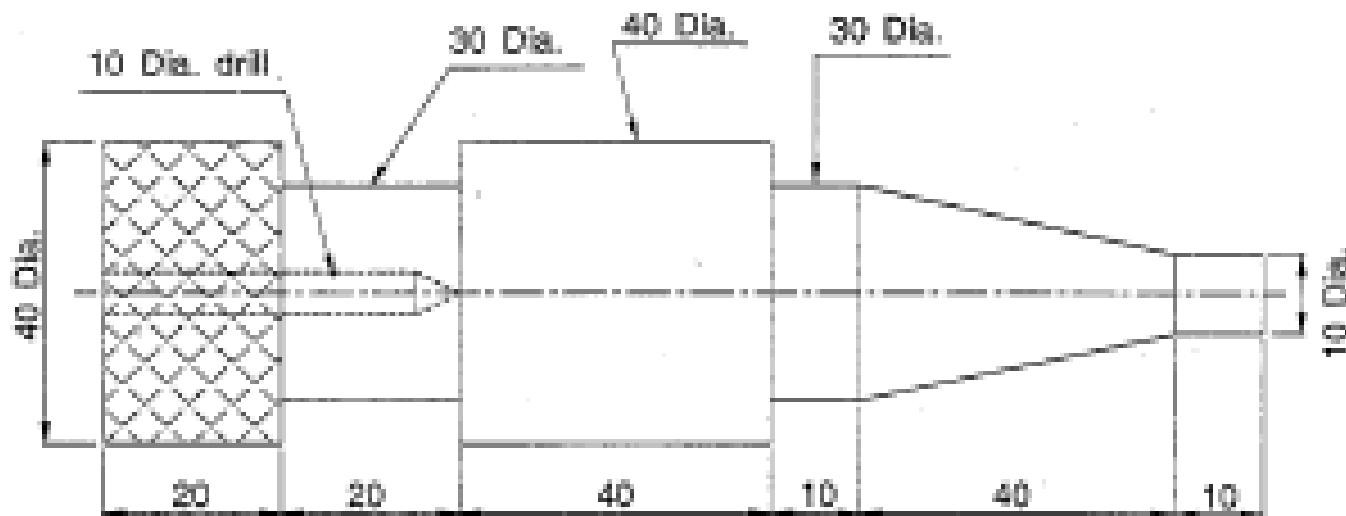

Figure 6.12 Part to be machined for question 13.
13. Component shown in Fig. 6.12 is to be manufactured from workpiece of size 45 mm diameter and 150 mm length. List the operations involved and what will be the best sequence of operations in your opinion.